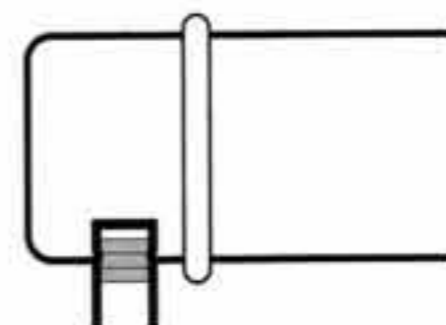

Figure 74A
❑ Step 33. Insert the aluminum stinger sleeve (165) into the exposed end of the rubber stinger. The sleeve (165) should be pushed through the rubber stinger tube (164) using a pencil, or other small object, until the sleeve (165) is centered in the wall of the pipe (161) as shown in Figure 74A.